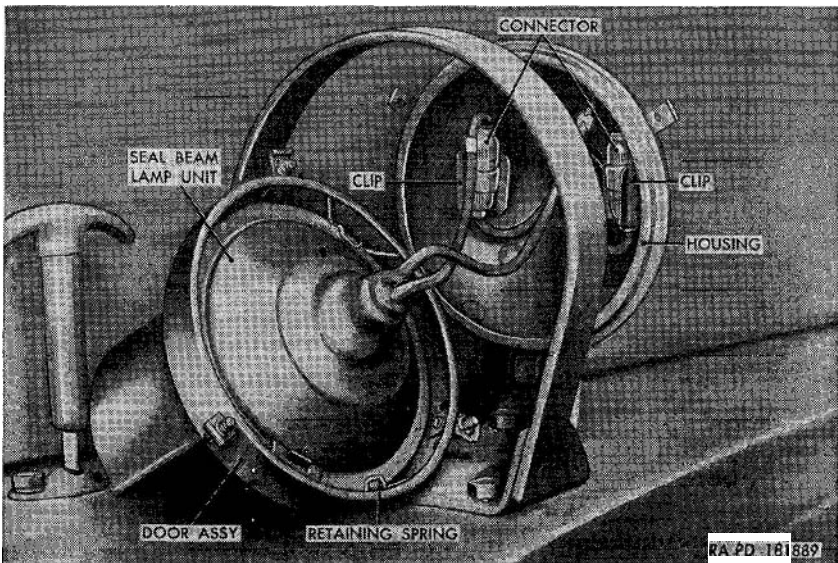

Figure 103. Blackout driving light-lamp-unit assembly withdrawn from housing.
- (a) Loosen the three door assembly bolts and pull the door and lamp-unit with cables free from the housing (fig. 103).
- (c) Remove the three lamp-unit retaining springs (fig. 103) from the door, and remove the lamp-unit.
- #### (2) Installation.